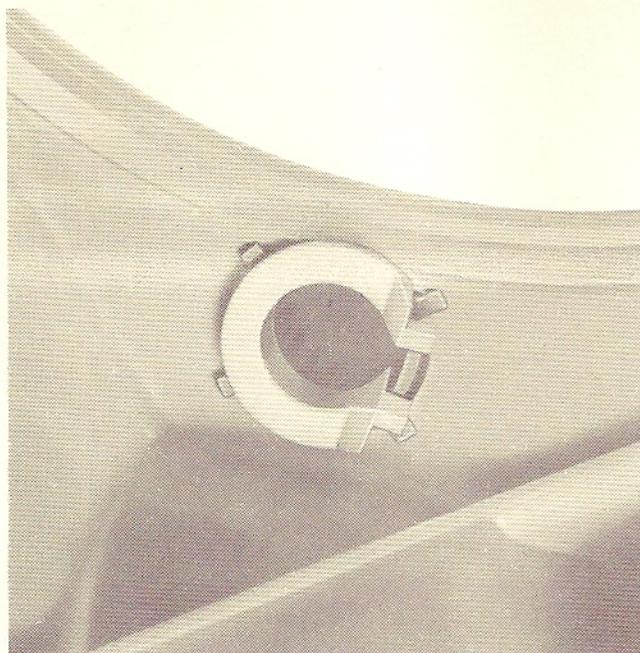

Fig. 30 — Retainer Ring Mounting in Set Housing
- (1) Remove set housing with lamp cap in place.
- (2) Press two tabs of retainer ring together.
- (3) Insert retainer ring into lamp cap so that retainer ring engaging pins fit into lamp cap slots (Fig. 30).
- (4) This prevents normal rotation and removal of the lamp cap.